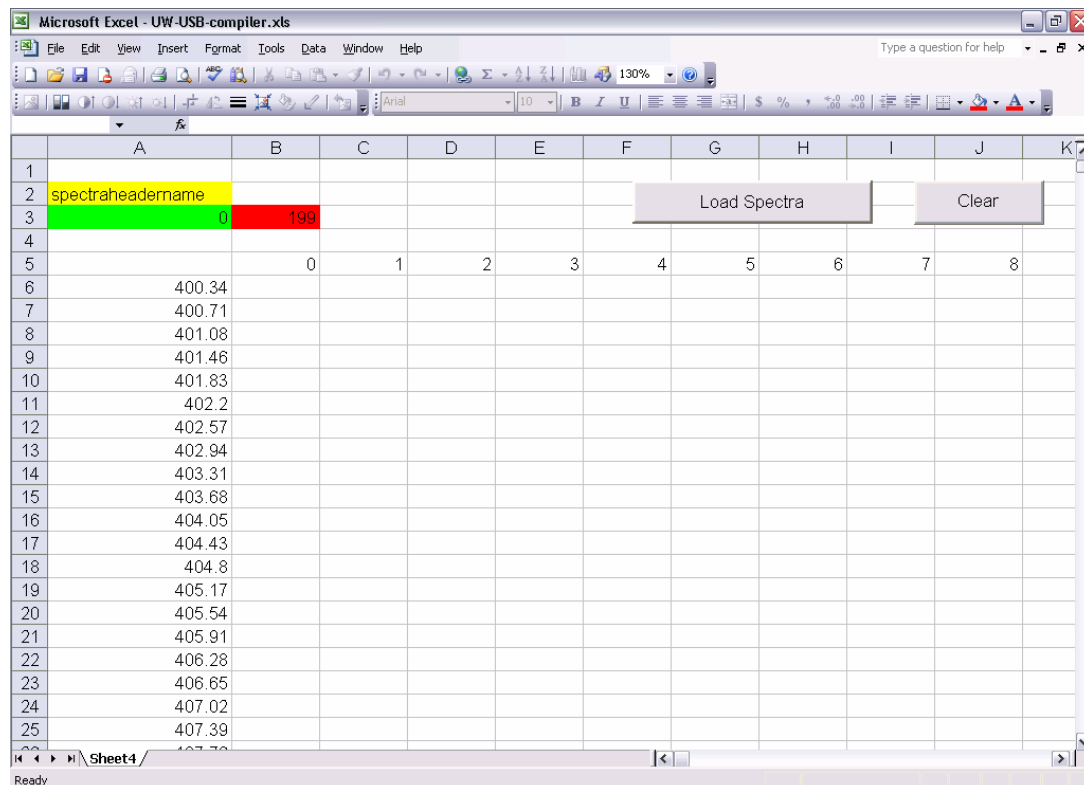

Figure 13 UW-USB compiler excel macro
3. Change the name (yellow box) to the name to code/name the spectra has before the sequential number (Figure 13).
4. Change the start number (green box) to the number of the first spectra you want to have in your excel file (Figure 13).
5. Change the end number (red box) to the number of the last spectra you want to have in your excel file (Figure 13)